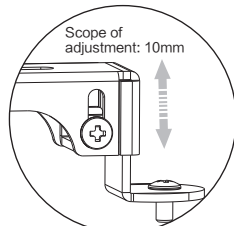

figure 12
4.Rotate the adjustable screw for adjusting the height of instillation arms if the installation holes are not at the same level as figure 12.